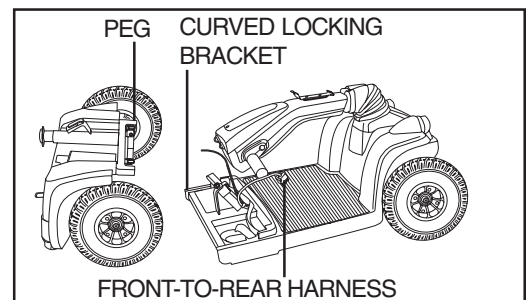

Figure 19. Frame Sections
1. Position the front and rear sections of your scooter as shown in figure 19.
2. Align the lower slots of the front section with the corresponding pegs on the front of the rear section. See figure 19.
WARNING! Position the front-to-rear harness so it won't become pinched between the frame halves when pivoting the rear section forward. See figure 19.